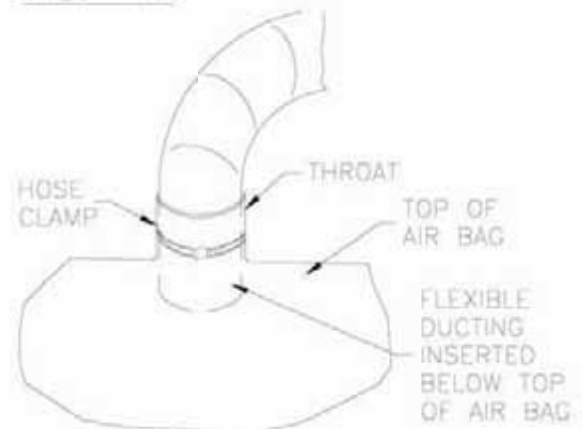

FIG. 11B
* Place deep enough into Air Bag so that Flexible Ducting extends below top of Air Bag (Figure 11b).